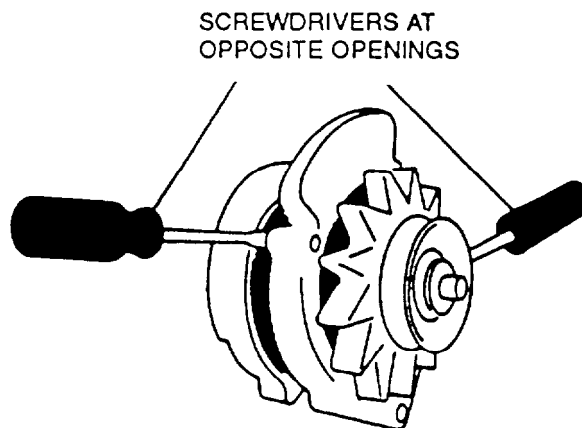

Figure 4-1. Housing Separation
- h. Insert two flat tip screw drivers in opposite openings between stator (21) and rear housing (19) and pry units apart, refer to Figure 4-1.
- e. Insert two flat tip screw drivers in opposite openings between stator (50) and rear housing (46) and pry units apart, refer to Figure 4-1. Remove insulating washers (40, 42, Figure 4-8).